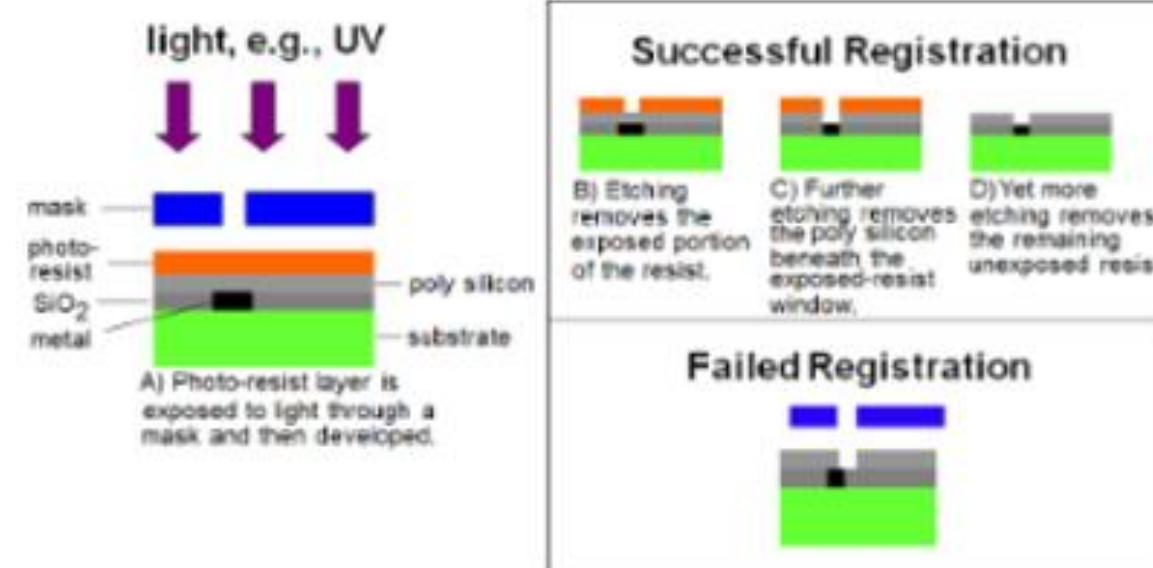

Figure 2
5.2.6 *registration* — a vector quantity defined at every point on the wafer. It is the difference,  $\vec{R}$ , between the vector position,  $\vec{P}_1$ , of a substrate geometry, and the vector position of the corresponding point,  $\vec{P}_0$ , in a reference grid:  $\vec{R} = \vec{P}_1 - \vec{P}_0$ . (See Figure 2.)